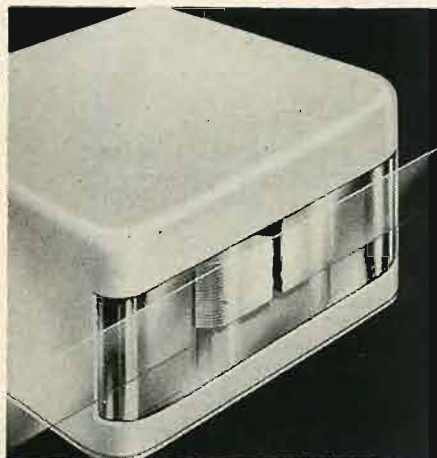

Fig. 1. Erosion of the gap of a tape head due to abrasive action of the tape.
2. *Smoothness of the Tape.* Depending upon the brand and quality of the tape and therefore upon the extent to which the tape has been lubricated and polished, head wear will vary. Figure 1 suggests the nature of head wear due to abrasive action of the tape; for visual clarity, the effect of abrasive action has been exaggerated in the drawing.